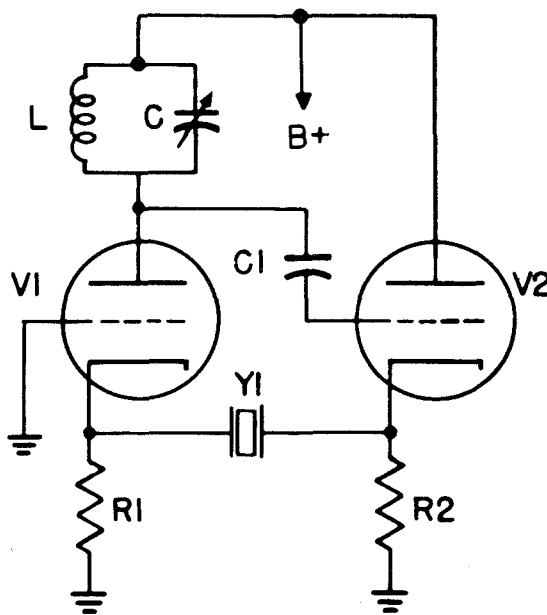
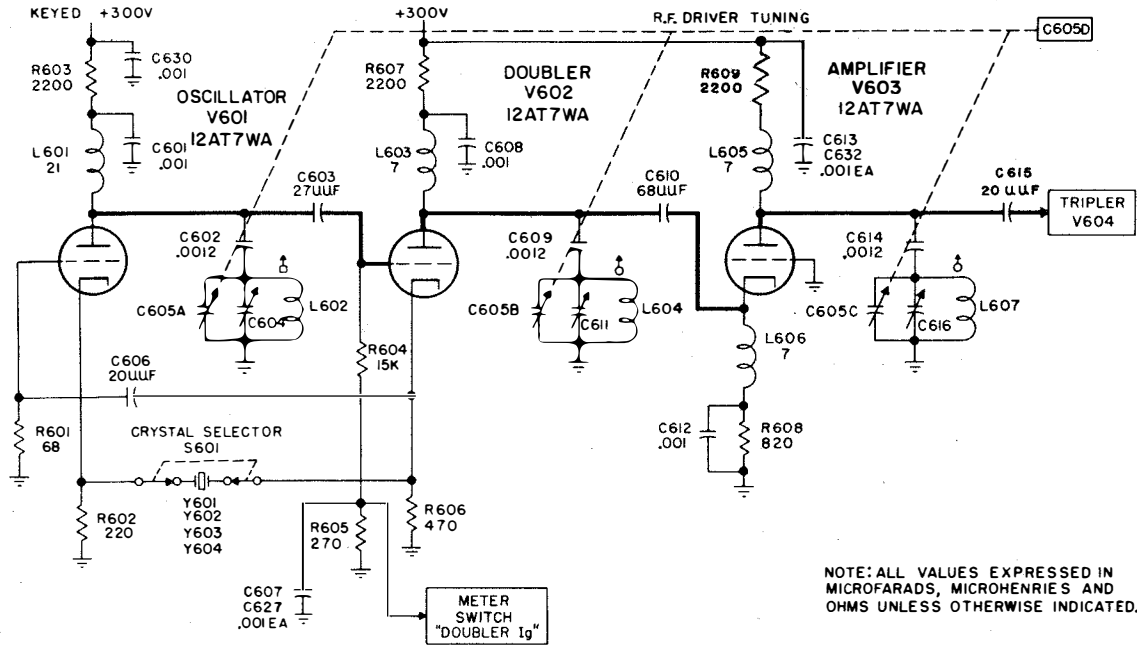

Figure 2-2. R-F Oscillator, Simplified Equivalent Circuit
Figure 2-3. Oscillator, Doubler, and Amplifier Stages, Simplified Schematic Diagram
(1) OSCILLATOR.—The r-f oscillator utilizes V601, a 12AT7WA twin triode, in a crystal-controlled circuit which obtains feedback voltage from doubler V602; see figure 2-3. To explain the operation of the oscillator, an equivalent but simplified circuit has been illustrated in figure 2-2. L and C form a tank circuit in the plate circuit of V1; it is tuned to the resonant frequency of the crystal, Y1. Oscillations appearing at the plate of V1 are coupled to the grid of V2 through C1. V2 acts as a cathode follower, its output cathode voltage being in phase with the V1 plate voltage oscillations. Crystal Y1, oscillating in a series-resonant mode, transmits the voltage at the cathode of V2 to the cathode of V1. In turn, V1 now acts as a grounded-grid amplifier, and reinforces the oscillations at its plate. Thus the positive feedback necessary to sustain oscillation is obtained.
The actual circuit is shown in figure 2-3. The stage corresponding to V1 of the simplified circuit is a 12AT7WA dual triode, V601, both sections of which are connected in parallel. Since V601 effectively functions as a single triode, it is so shown in figure 2-3. Keyed plate voltage is supplied through decoupling network C601-
The necessary cathode impedance corresponding to R1 of figure 2-2 is R602.
The second stage, corresponding to V2 of figure 2-2, is doubler V602, another 12AT7WA twin triode with both sections connected in parallel; V602 is also shown as one triode, since it functions as a single stage. The doubler plate-tank circuit tunes a frequency range twice that of the oscillator stage, i.e. 38.33 to 52 megacycles. The tank-circuit impedance at the crystal oscillator frequency is therefore very low, resulting effectively in grounded-plate operation of V602 for the oscillator frequency, as indicated in figure 2-2. The cathode-follower action is obtained by the connection of R606 which corresponds to R2 of figure 2-2, and the output voltage is fed back through the selected crystal to the cathodes of V601. Thus V601 and V602 oscillate at the crystal frequency when C605A tunes the oscillator plate-tank circuit to the crystal frequency. C605A is gang-tuned with the other sections of C605. C604 is the plate padder and, with L602, is varied to make the final tuning-range adjustments for proper tracking of the ganged control. Coupling capacitor C603, corresponding to C1 of figure 2-2, couples the output of the oscillator in-
(2) DOUBLER. — The doubler, V602, serves as part of the oscillating circuit and also as a frequency multiplier; see figure 2-3 and subparagraph (1), above. The signal voltage developed in the oscillating circuit is applied to the grid of V602 through coupling capacitor C603.
(3) **AMPLIFIER.**-- A paralleled 12AT7WA twin triode (V603) is used as a Class C ground-grid amplifier to provide sufficient drive for the tripler stage. V603 is shown in figure 2-3 as a single triode, reflecting the manner in which it actually functions. The input signal is coupled into the cathode from the plate of the doubler. L606 presents the necessary impedance for developing the signal voltage. The plate-tank circuit, which tunes the same frequency range as the doubler, 38.33 to 52 megacycles, is shunt-fed through C614. C605C, the third section of the four-section capacitor, is the main tuning control. Alignment adjustments are made with L607 and C616, both of which are variable, to insure proper tracking of the ganged control. The output of the amplifier is coupled into the grid of the tripler through C615. Cathode bias for the amplifier is provided by R608 and C612. Plate voltage is supplied through r-f choke L605 and resistor R609; capacitors C613 and C632 (connected in parallel) bypass the 300-volt supply for rf.